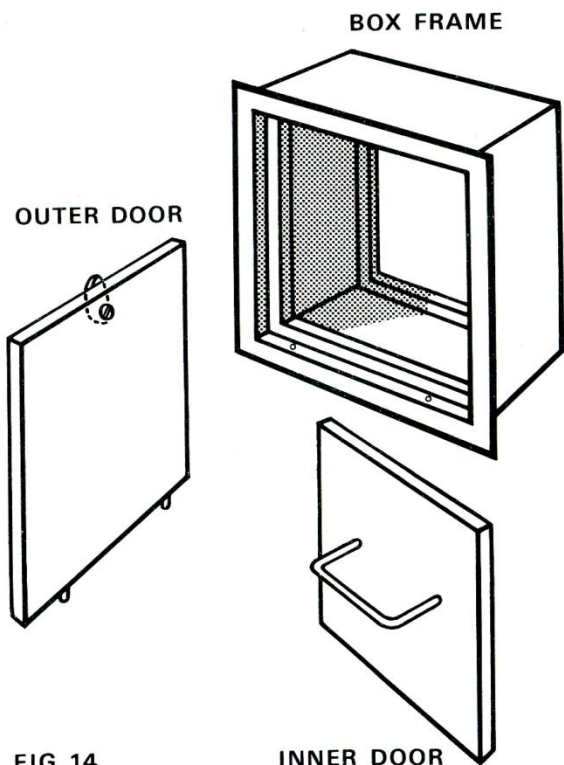

FIG. 14
**Remedy** The type of installation shown in FIG.11(a) is best treated by extending the flue pipe as shown in FIG. 11(b); this avoids the hot gases emerging into a large cold void, which is a common cause of poor draught. Note that a flue cleaning door is provided. Freestanding roomheaters in front of an existing open fireplace should have the flue pipe short enough to allow a clearance of at least 100 mm (4in), and preferably more, between the pipe and the fireback (see FIG.12(b)) — even if it means cutting away the knee of the fireback. Fluepipes projecting into brick flues should be via bends of 135° or at least 120°, to avoid a sharp change in direction of the flue gases, and the pipe should be cut flush with the inner wall of the flue (see FIG.13(b)). The soot door should be 'double' (have an inner plate as shown in FIG. 14) to avoid excessive cooling of the gases. It should also be slightly below the entry of the fluepipe so that the hot gases do not impinge on it and so that there is a small catchment space to reduce the possibility of the fluepipe becoming blocked by deposits dropping from the flue. There should be no large cavity below the soot door.